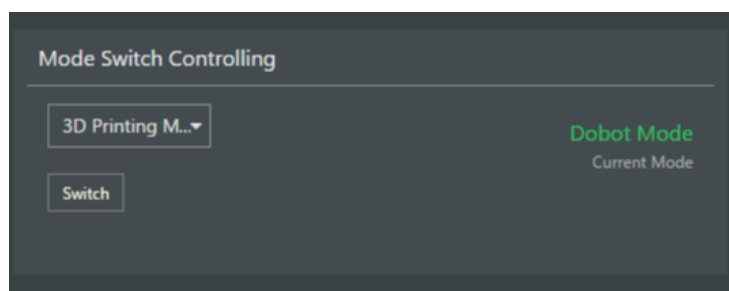

Figure 6.19 Switch 3D printing
3. Select **3D printing Mode** from the drop-down list on the **Mode Switch Controlling** pane of the **Home** page and click **Switch**, as shown in Figure 6.19.